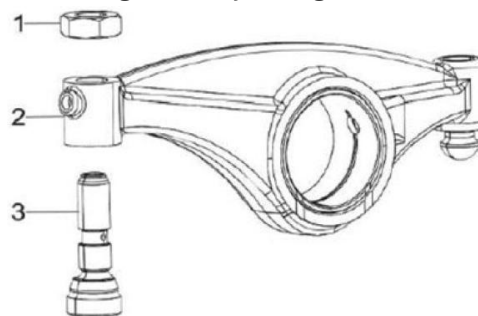

Figure 70. Rocker Arm Assembly
5. Insert a 0.4~0.6 mm feeler gauge between rocker arm shaft sleeve (Figure 70, Item 3), and intake rocker arms assembly (Figure 70, Item 5). If outside of specifications replace rocker arms.